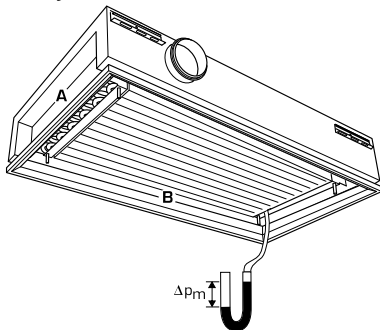

FIGURE 24
- 3) Air pressure must be checked at this time. (See **FIGURE 24**).